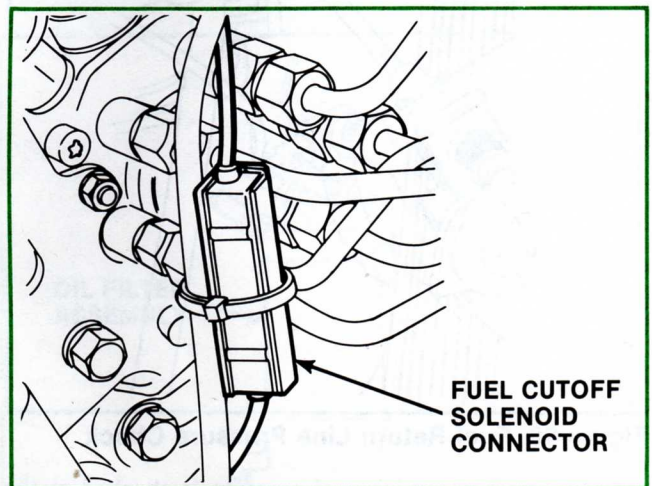

Figure 101. Fuel Cutoff Solenoid Connector
4. Disconnect the fuel cutoff solenoid valve wire (Fig. 101) on the fuel injection pump to de-activate the solenoid during testing. This will prevent fuel from getting to the engine and causing it to start.